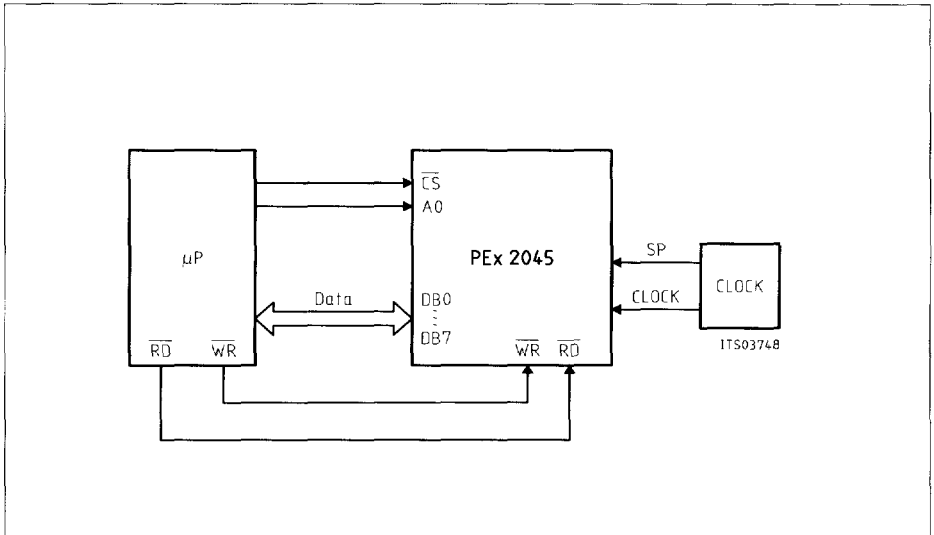

Figure 12
The PEx 2045 is programmed via the μ P interface. It consists of the data bus DB7 ... DB0, the address bit A0, the Write (WR), the Read (RD) and Chip Select (CS) signal, as shown in figure 12.